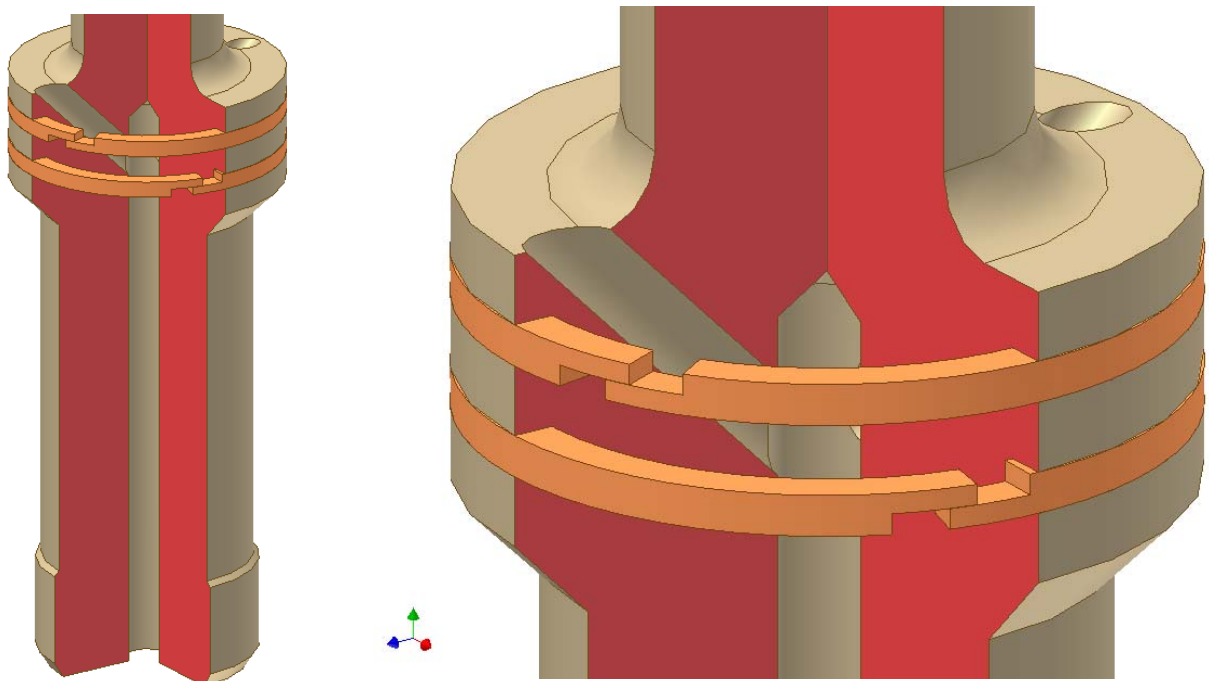

Figure 2: Pressure Balanced Sleeve with metal seals, showing pathways through plug and joining of metal seals.
- One-piece plug with metal piston ring. (High temperature applications) – see figure 2